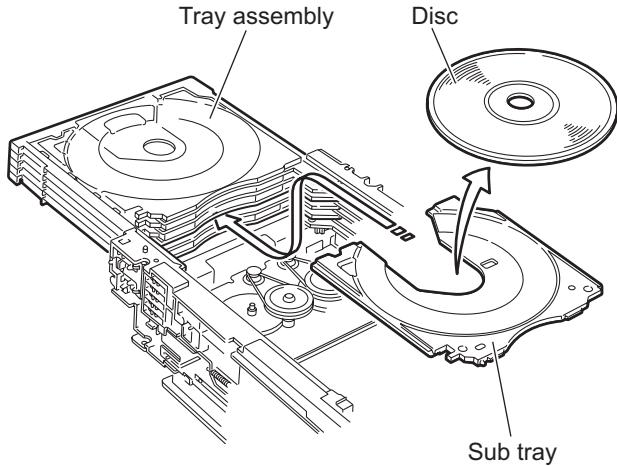

Fig.35
- (5) Take out the disc on the sub tray. (See Fig.35.)